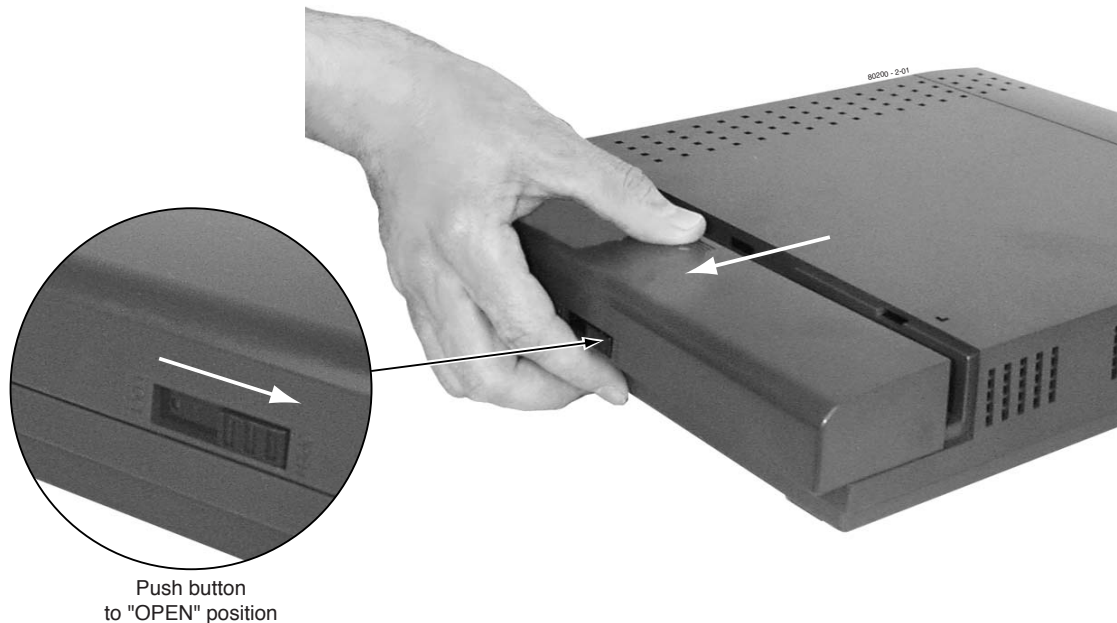

Figure 1-2: Removing the Cover
**To remove the cover** (Figure 1-2):